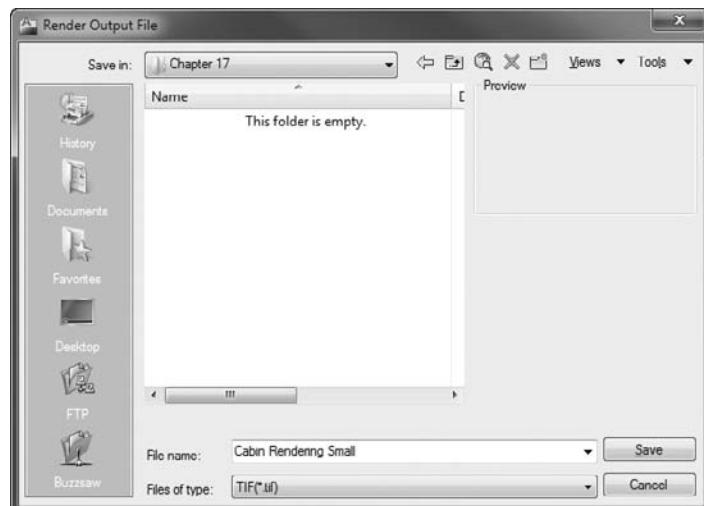

FIGURE 17.33 Saving the final cabin rendering
3. Navigate to the folder where you want to place the new image file, and then select a supported image file type in the Files Of Type drop-down list. For this exercise, choose TIF as the file type, and name the file Cabin Rendering Small.tif (see Figure 17.33). Click the Save button.